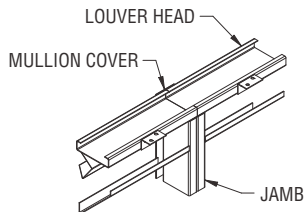

Fig. 2.4 - MULTI-SECTION WIDE VERTICAL MULLION
6. For visible mullions, install mullion cover on right hand jamb (as viewed from the exterior). See figure 2.4.